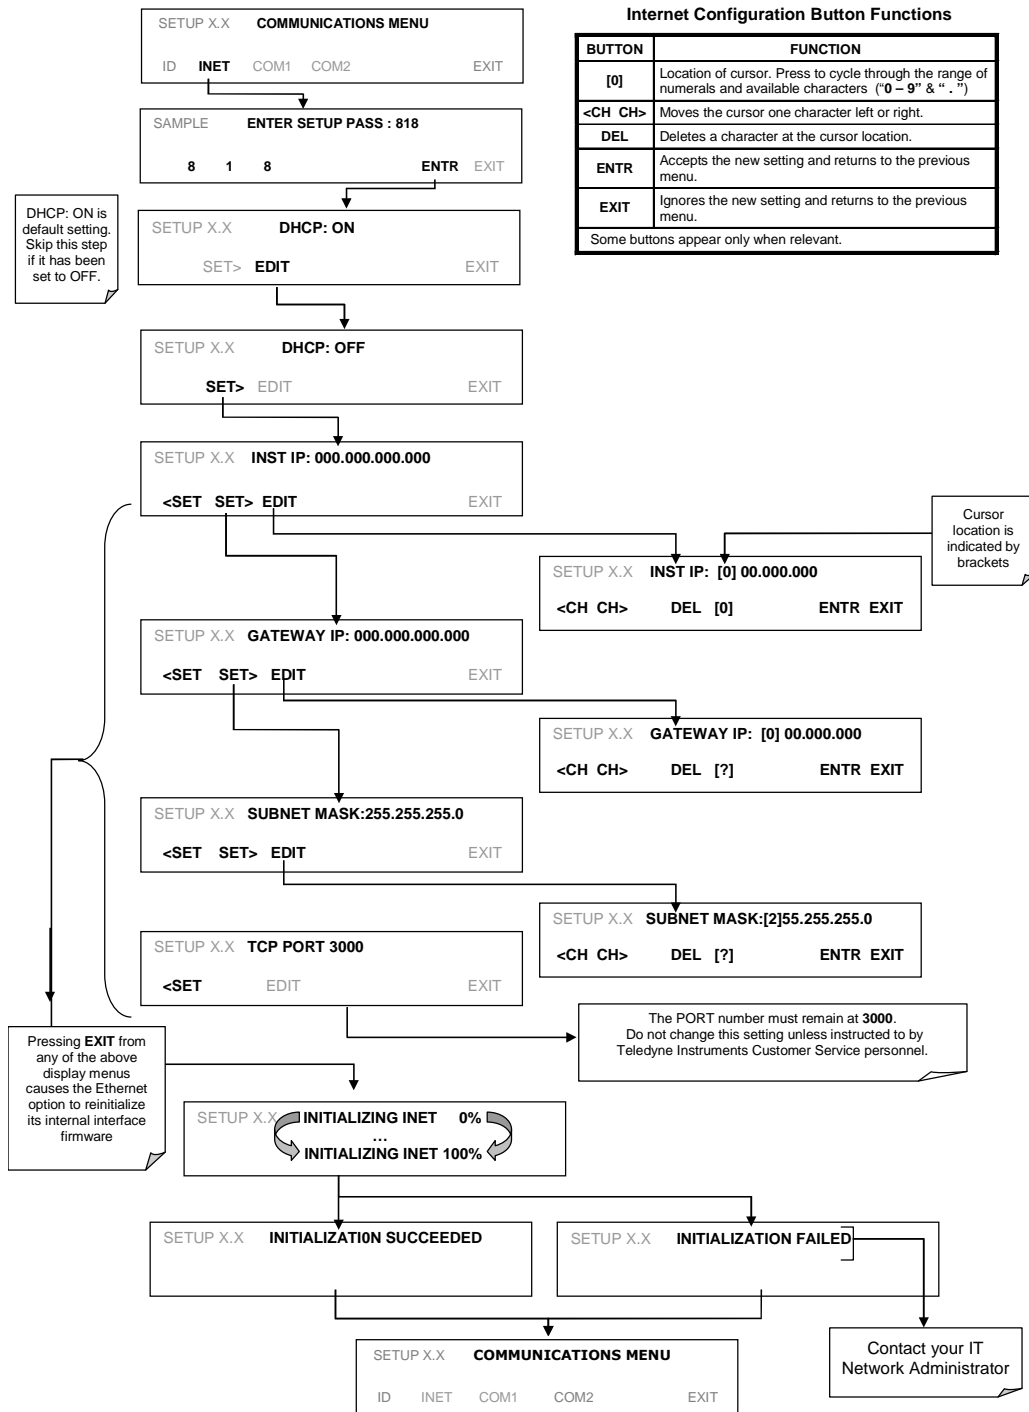

Figure 6-4: COMM – LAN / Internet Manual Configuration
3. Enter the Ethernet menu (INET), follow the setup sequence as shown in Figure 6-4, and edit the Instrument and Gateway IP addresses and Subnet Mask to the desired settings.